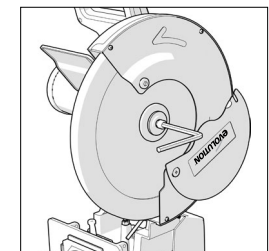

Fig. 4
- Use the supplied hex key to loosen the arbor screw. **(Fig. 4)**